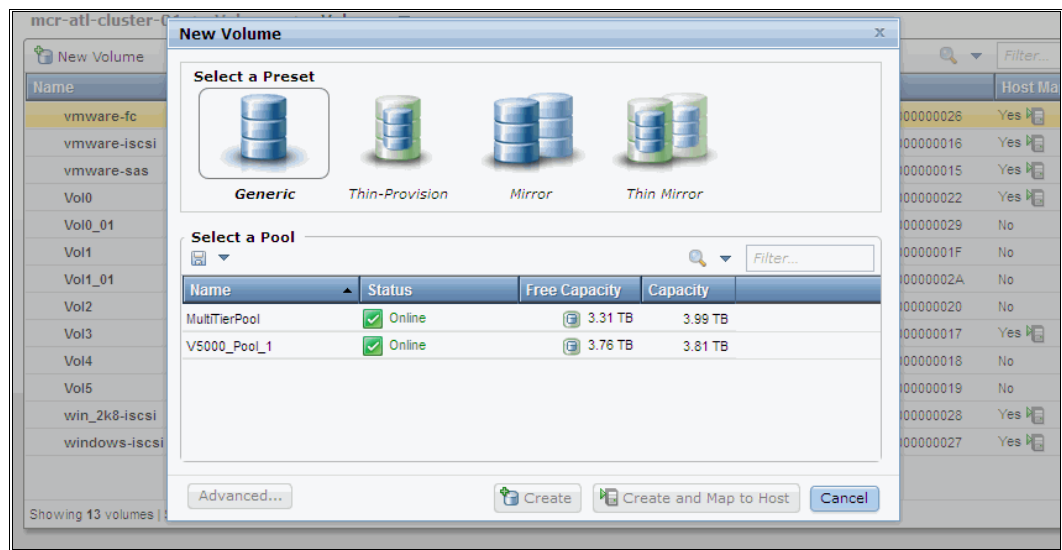

Figure 5-4 Provisioning a Generic volume
1. Choose a generic volume, as shown in Figure 5-4.